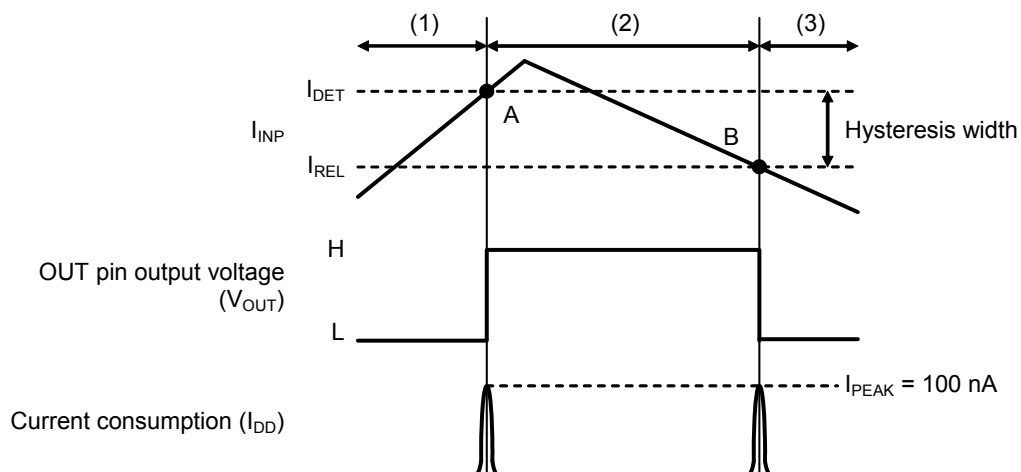

Figure 14 Operation when Detecting Certain Photocurrent Level
- (1) If I_{INP} is lower than I_{DET} , an "L" level signal is output from the OUT pin.
- (2) If I_{INP} increases and becomes equal to or higher than I_{DET} , an "H" level signal is output from the OUT pin (point A in **Figure 14**). Even if I_{INP} decreases and falls below I_{DET} , as long as I_{INP} is higher than I_{REL} , an "H" level signal is output from the OUT pin.
- (3) If I_{INP} then decreases further and becomes equal to or lower than I_{REL} , an "L" level signal is output from the OUT pin (point B in **Figure 14**).
- 2.** Feed-through current ($I_{PEAK} = 100$ nA) flows around the time when the OUT pin voltage switches, as shown in **Figure 14**. Therefore, if the input current is fixed around this time, the current consumption will increase.
The hysteresis width is the current difference between the detection current and the release current (current at point B – current at point A in **"Figure 14 Operation when Detecting Certain Photocurrent Level"** and **"Figure 16 Operation when Detecting the Difference of Photocurrent Level"**).